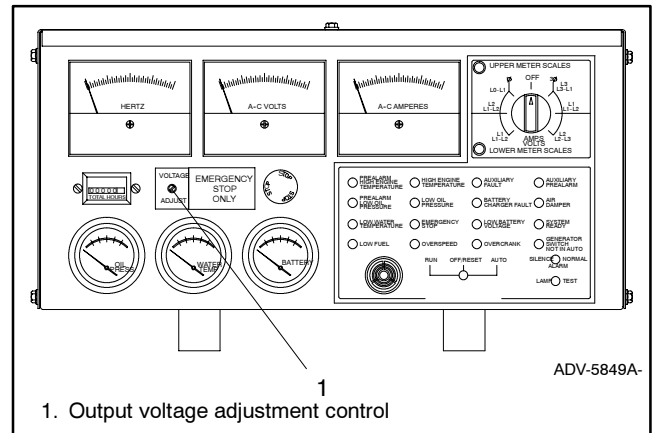

Figure 5-6 Voltage Adjustment
- 20–300 kW Models: Adjust the voltage with the voltage adjustment control on the generator set controller front panel (or switchgear). See Figure 5-6.